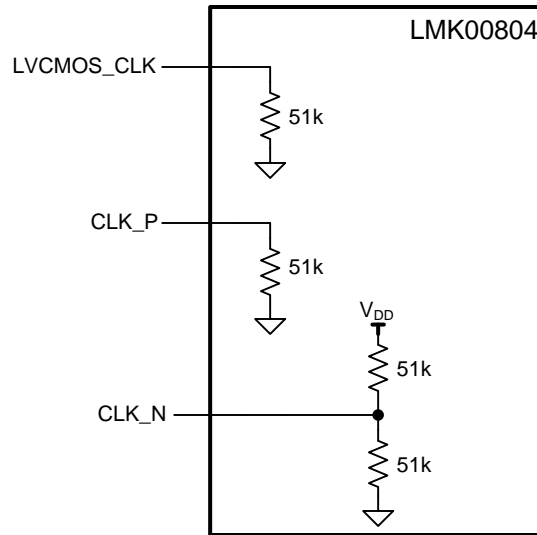

Figure 7. Clock Input Components
- **CLK_P/CLK_N Inputs:** See Figure 7 for the internal connections. When using a single-ended input, take note of the internal pullup and pulldown to make sure the unused input is properly biased. To interface a single-ended input to the CLK_P/CLK_N input, the configuration shown in Figure 9 is recommended.
- **LVC MOS_CLK Input:** See Figure 7 for the internal connection. The internal pulldown (PD) resistor ensures a low state when this input is left floating.